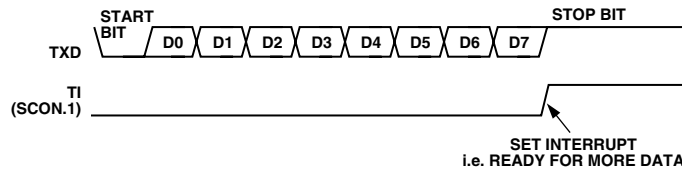

Figure 41. UART Serial Port Transmission, Mode 1.
Transmission is initiated by writing to SBUF. The ‘write to SBUF’ signal also loads a 1 (stop bit) into the ninth bit position of the transmit shift register. The data is output bit by bit until the stop bit appears on TXD and the transmit interrupt flag (TI) is automatically set as shown in Figure 41.